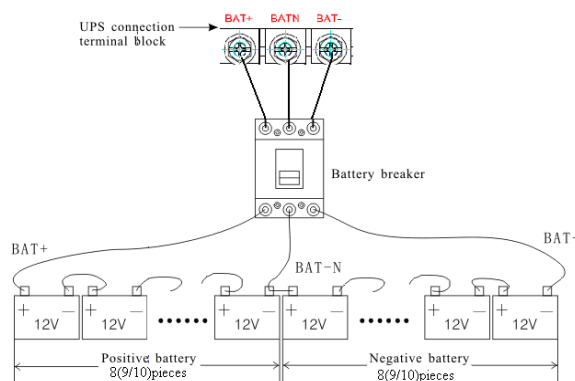

Fig. 3-4 External battery connection
- 3) **Remove terminals' cover, use multimeter to make sure there is no DC voltage at the battery terminals of UPS (Fig. 3-4).**